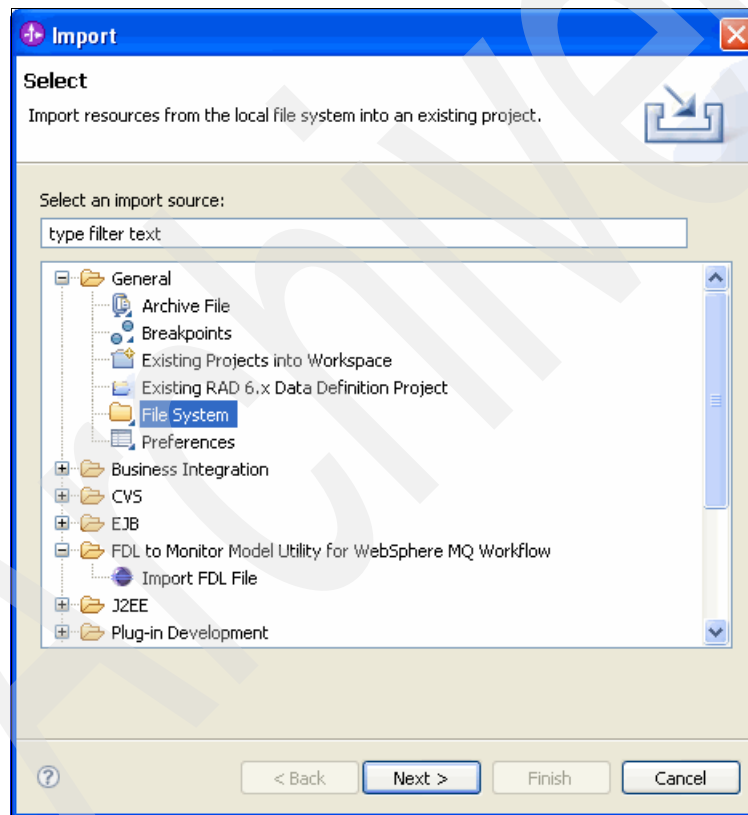

Figure 8-121 Selecting to import from the file system
- b. In the Import window (Figure 8-121), expand **General** and select **File System** and click **Next**.